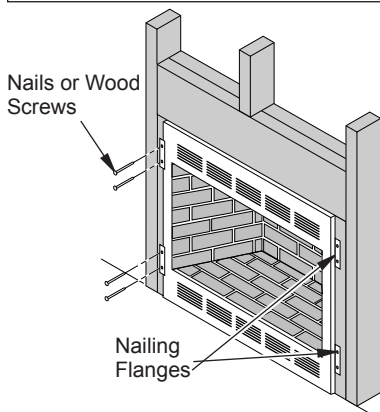

Figure 7 - Attaching Firebox to Wall Studs
5. Attach firebox to wall studs using nails or wood screws through holes in nailing flange (see Figure 7 on page 11).